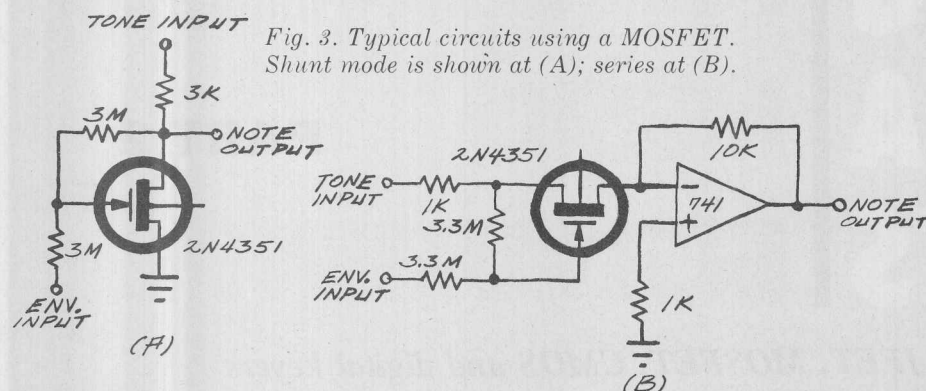
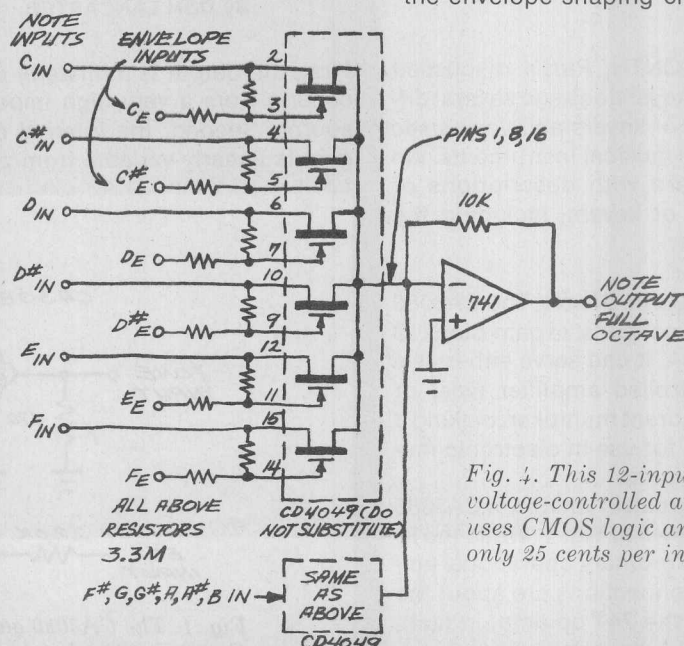

Fig. 3. Typical circuits using a MOSFET. Shunt mode is shown at (A); series at (B).
Fig. 4. This 12-input voltage-controlled amplifier uses CMOS logic and costs only 25 cents per input.
Shown in Fig. 3 are typical circuits in which the 2N4351 MOSFET is used in the shunt (A) and series (B) modes. If the substrate lead is permitted to float and the two-resistor feedback network is used exactly as shown, the circuits can be operated with up to 10 volts of peak-to-peak audio signal.
The only catch to the above is that ordinary CMOS hex inverters contain input-protection diodes that make this essentially impossible. But the new RCA CD4049 or Motorola MC14049 IC's eliminate the problem. The circuit for using these new IC's is shown in Fig. 4. It is simply the circuit shown in Fig. 3 repeated 12 times for a full octave's worth of keying (12 notes), accomplished with three low-cost integrated circuits.
The most important advantages of the CMOS keying approach include very simple circuit design, low parts cost and, electronically, very high impedance on the envelope input lines. (A fully custom version of the Fig. 4 circuit technique is used by one major electronic organ manufacturer.)